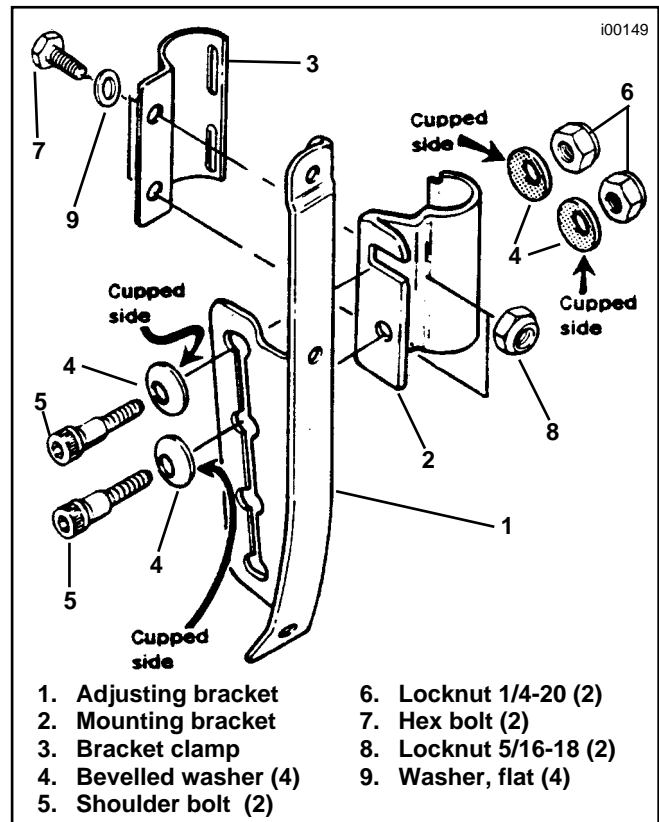

Figure 1. Windshield Hardware - Right Side
1. See Figure 1. Loosely install new windshield right mounting bracket (2) and a windshield mounting bracket clamp (3) from kit onto right front fork tube using two 5/16 - 18 x 3/4 in. hex flange bolts (7), two chrome washers (9) and two 5/16 - 18 locknuts (8) from kit.
2. Position windshield right adjusting bracket (1) (part of windshield assembly) over outboard side of new windshield right mounting bracket (2).